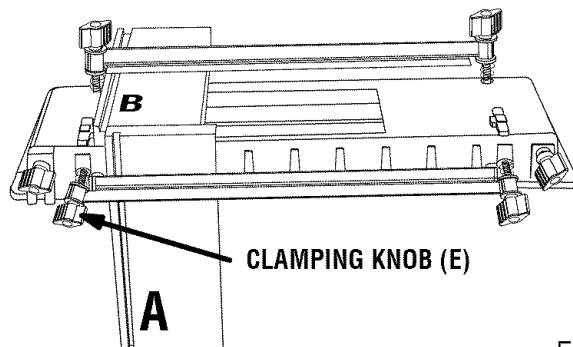

Fig. 33
- Tighten clamping knobs (E) on top clamping bar to hold board (B) securely.
- Relocate board (A) so that it is flush with the top of board (B) and against 2-way stop on left front of dovetail base. See Figure 33.